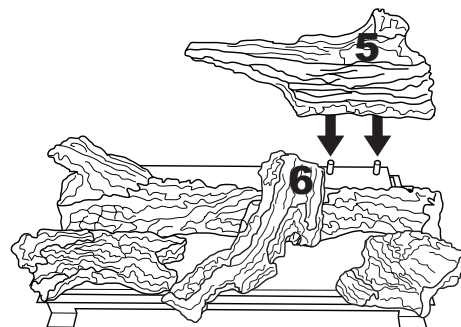

Figure 45 - Installing Logs No. 5 and No. 6
4. Place log #5 (right rear log) onto pins on right rear of burner (see Figure 45). Rest log #6 (middle crossover log) on top of log number 2 as shown in Figure 45.